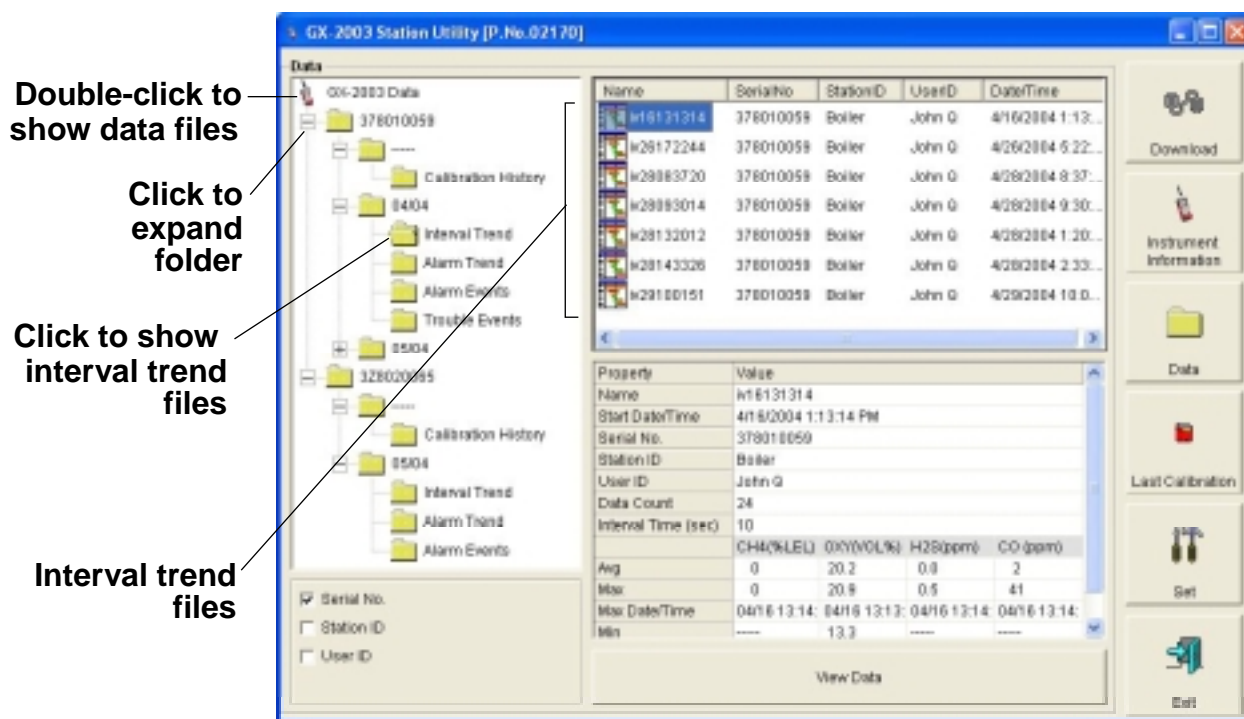

Figure 22: Data Window - Selecting Interval Trend Data Files
- If you click the **Summary** button, the data window will split into two frames, one above the other, with the data table in the lower frame and the summary information shown in the upper frame. The summary information is the same as the one shown in the lower right frame in Figure 22.
NOTE: The data count shown when you have selected an interval trend data file, as in Figure 22 above, can be more than five if you have events, such as the GX-2003 going into and out of alarm, but you may not have five scheduled data points.
- If you click the Summary button, the data window will split into two frames one above the other with the graph in the lower frame and the summary information shown in the upper frame. The summary information is the same as the information shown in the lower right frame in Figure 22.